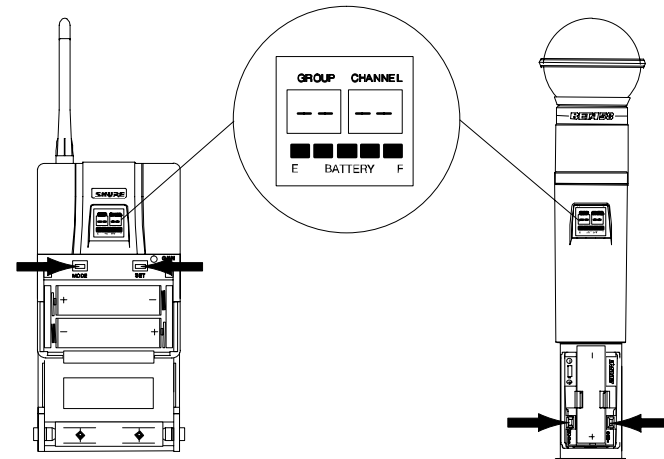

FIGURE 45
3. To verify that the frequency lock function is turned on, press the MODE or SET button. If the lock function is turned on, "—" will appear on the transmitter screen, as shown in Figure 45.